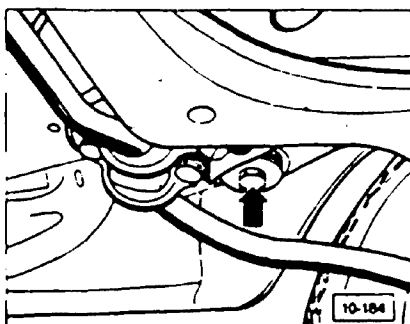

Fig. 2 Oil pan, removing/Installing
► Fig. 2 Pilot needle bearing, removing